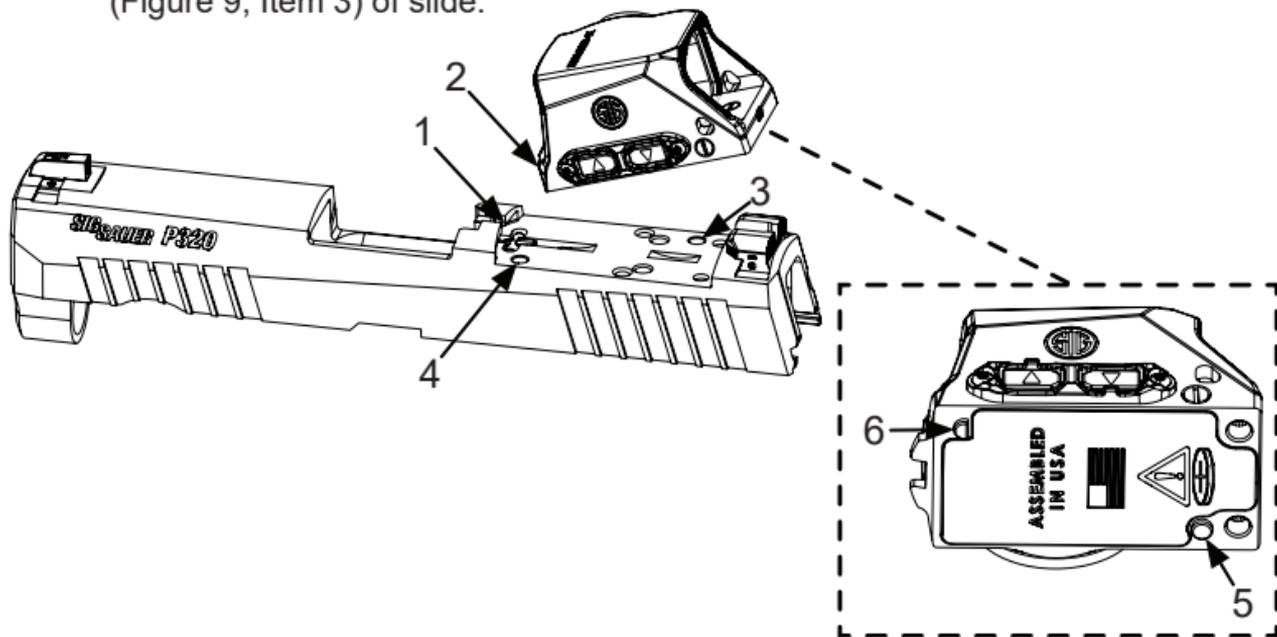

Figure 9. Position Sight on Slide
9. Insert front wedge of sight (Figure 9, Item 2) into cutout in slide (Figure 9, Item 1). Set sight onto slide ensuring front recoil lug (Figure 9, Item 6) seats in front hole (Figure 9, Item 4) and rear recoil lug (Figure 9, Item 5) seats in rear hole (Figure 9, Item 3) of slide.